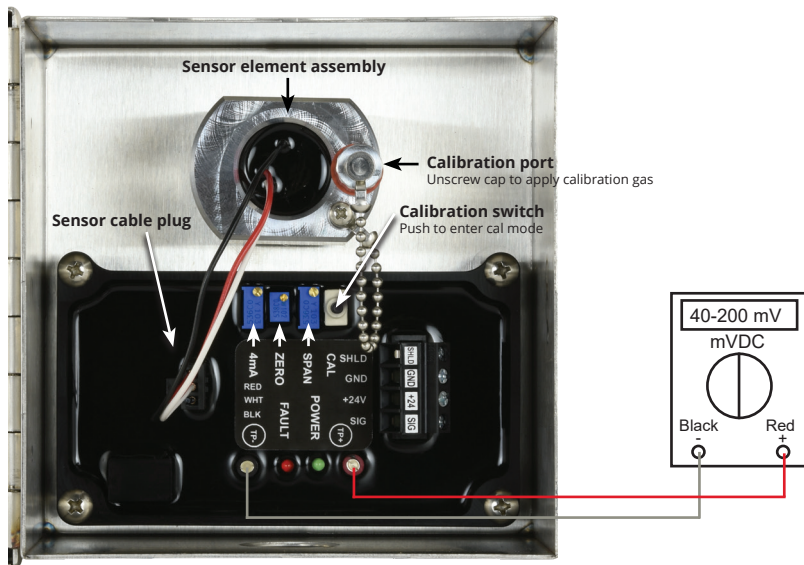

Figure 3: Transmitter and sensor assembly
The GG-VL2-NH3 sensor comes factory calibrated and should only require zero-calibration adjustment after installation. Calibration should be performed every six months. There are two pots on the preamp that are used for calibration (see Figure 3).
- Adjust the zero pot until the sensor outputs 40 mVdc from Test [-] to Test [+] (see **Figure 3**).
Span Calibration: Do not adjust the span pot without certified calibration gas! If span adjustment is required, use the following procedure (see Figure 3):
To replace the sensor, refer to **Figure 3** and the following procedure.